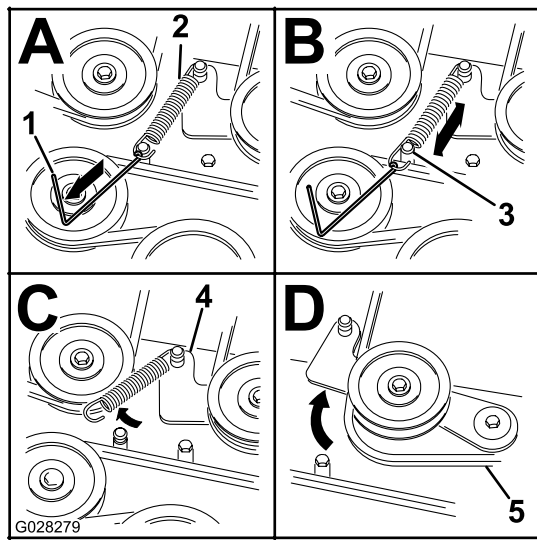

Figure 77
8. Using a spring removal tool, (Toro Part No. 92-5771), remove the idler spring from the deck post to remove tension on the idler pulley (Figure 77).
11. Install the new belt around the mower pulleys and the clutch pulley under the engine (Figure 77).
12. Using a spring-removal tool, (Toro Part No. 92-5771), install the idler spring over the deck post and placing tension on the idler pulley and mower belt (Figure 77).